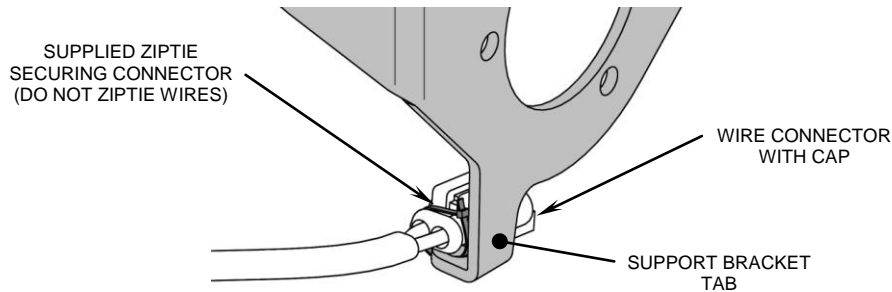

FIGURE 2
4. Join together the assembly from Step 3 with the supplied support bracket and gasket then start threading the (3) buttonhead bolts into the throttle body, but do not tighten.
5. Place a supplied o-ring onto both supplied breather bolts. Insert the breather bolts through the support bracket openings and into the cylinder heads and lightly snug. Now snug the (3) buttonhead bolts evenly, and then fully tighten them to the throttle body. Tighten the (2) breather bolts.
7. **For 2012 Dyna models** use the supplied ziptie to secure the wire connector/cap to the support bracket tab. See Figure 2. *NOTE: Secure ziptie around the connector, DO NOT ziptie around wires.*